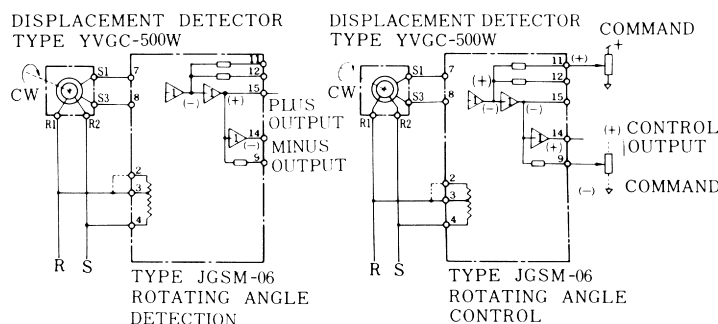

Fig. 15 Rotating Angle Control
Fig. 15 shows the example of connections between the position controller and displacement detector type YVGC-500W. It indicates that direction of detector rotation is clockwise. Plus voltage and minus voltage appear at terminal ⑮ and ⑭, respectively.